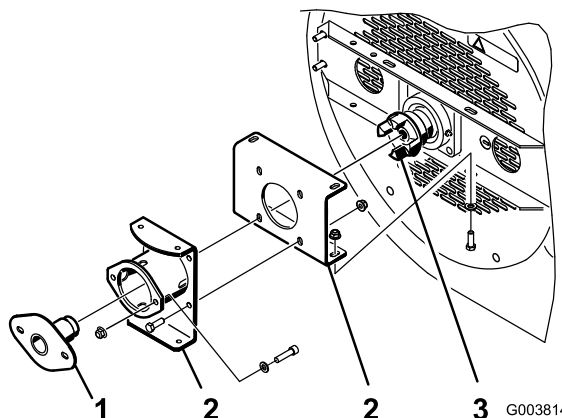

Figure 9
1. Make sure that the mounting brackets are installed to the blower housing but the bolts and nuts are loose (Figure 9).
2. Insert the bearing alignment tool through the mounting brackets and into the fan coupler (Figure 9).